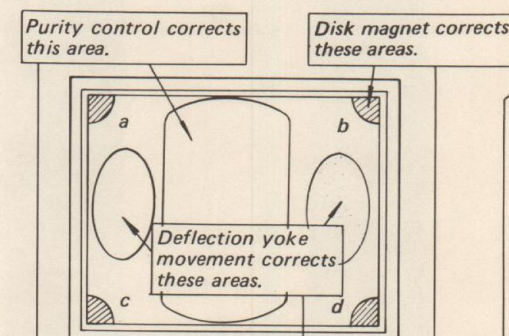

Fig. 4-3.
- Check if mislanding appears at corners a~d as shown in Fig. 4-3. If mislanding is observed, correct it as shown in Fig. 4-4.